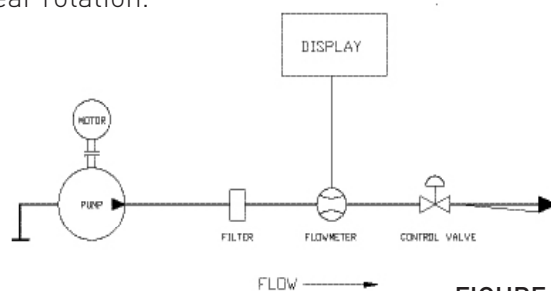

FIGURE 1
**Install the meter upstream from control valves and fluid regulators if possible** - see Fig.1. Back pressure from control valving is beneficial for stable running.
**If possible install a bypass** around the meter and flush existing piping with the appropriate solvent before first use - see Fig.1.